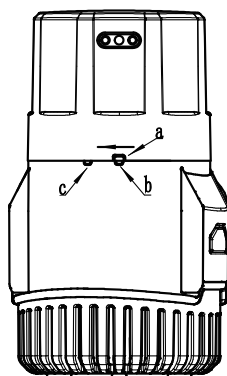

Figure 5
2. Rotate the motor cover so that convex point a rotates from convex point b to convex point c, as shown in Figure 5 to Figure 6.